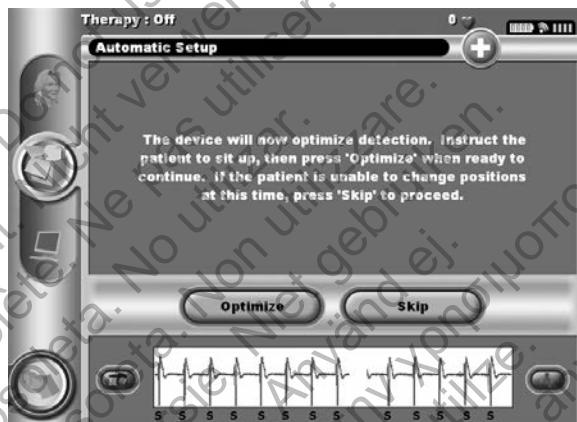

Figure 28: Automatic Setup screen
6. The Automatic Setup Sensing Optimization screen will be displayed. The programmer will display a message requesting that the patient sit up; however, this process can be omitted during the implantation procedure by selecting the Skip button (Figure 28).